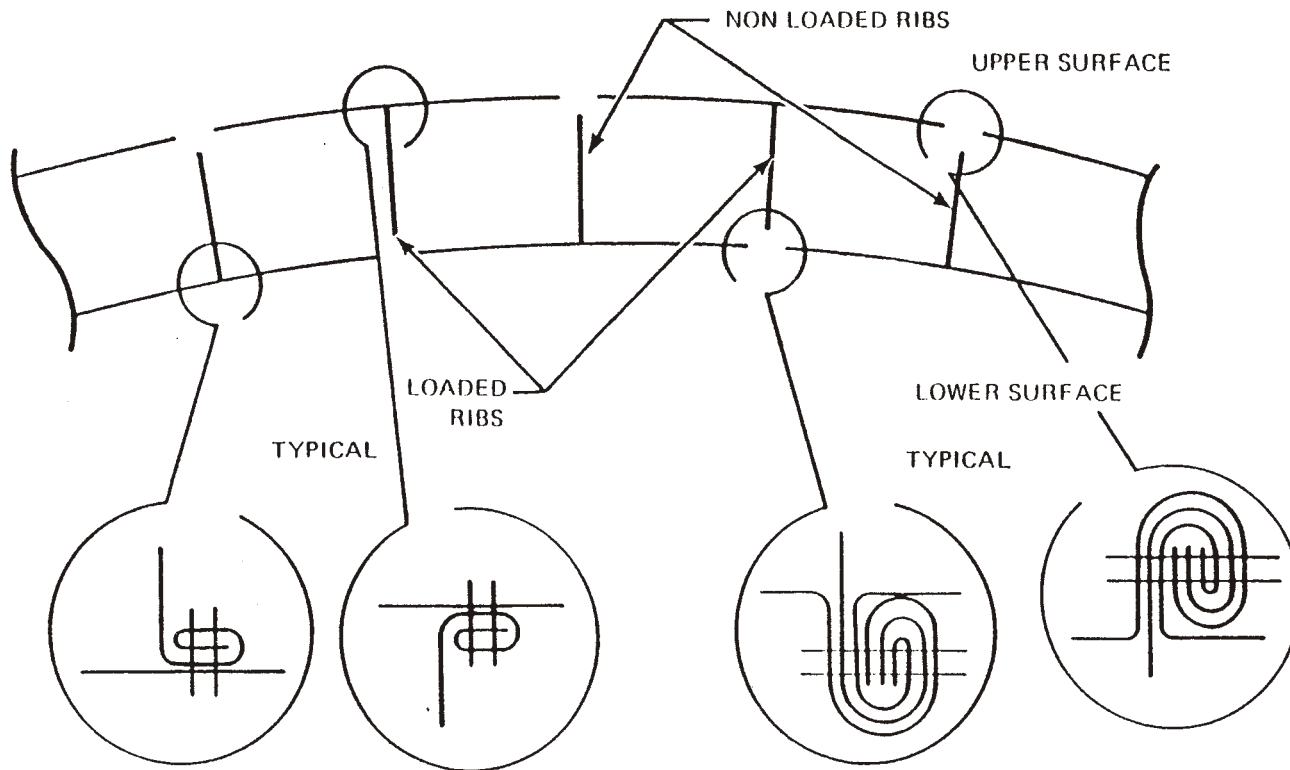

FIGURE 4c
**Interlocking T-Beam:** Full-cell construction in which the top surfaces are joined to each other at the seams with the non-loaded ribs and the bottom surfaces are joined to each other at the seams with the loaded ribs. Note that this technique will have a half-cell panel at each end of the top surface. Figure 4c.
**Half-Cell Chordwise:** Top and bottom surfaces are cut to the width of the half-cells and joined to each other at all rib seams. Figure 4c.